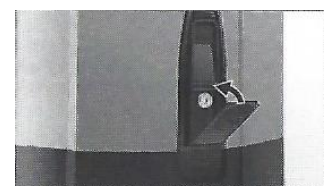

FIGURE 9
- Remove key and fold back the lock cover Fig 9